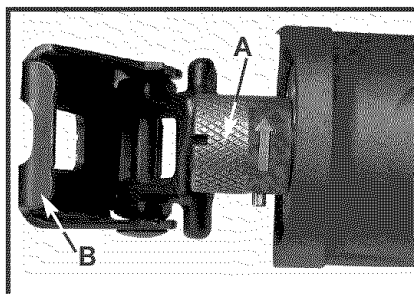

Fig. 1
1. The reciprocating shaft must be fully extended to permit access to the keyless quick-change blade release collar (A) **Fig. 1**. If necessary, gently squeeze the trigger switch to move the reciprocating shaft to its outermost position (as shown in **Fig. 1**).
2. Pivot the guide shoe (B) **Fig. 1**, forward to improve access to the blade clamp.